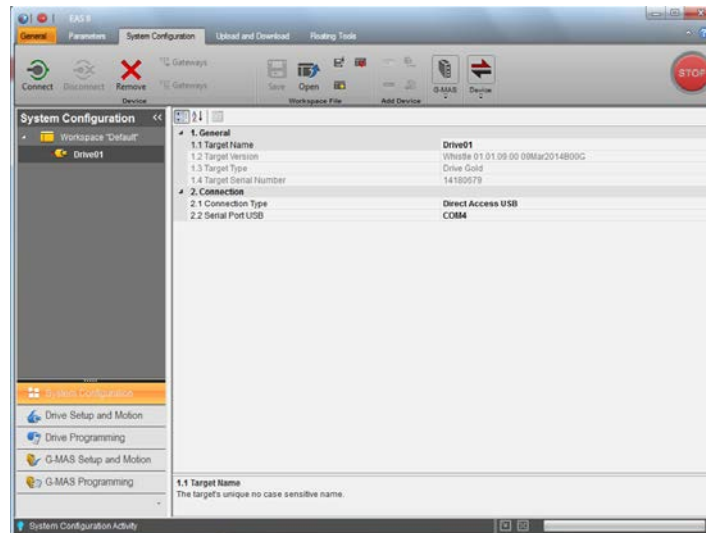

Figure 7
6.1.2 With a USB Cable connected to the drive and PC, Select System Configuration (Highlighted in yellow in figure 7).